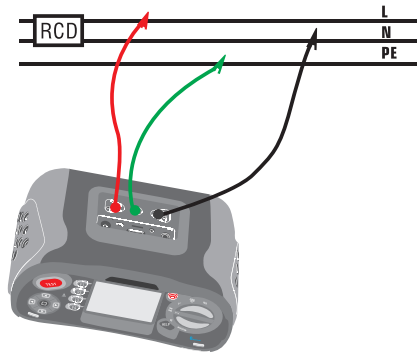

Figure 15 RCD Measurement-Test lead connection
- 4-Connect test leads as shown in the Figure 15
- 4-Connect the test leads as shown in Figure 15